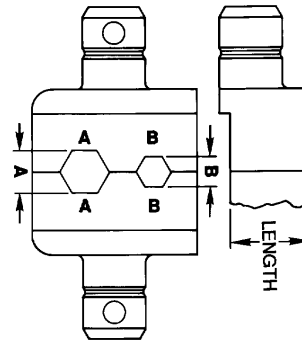

Figure 33. Die Dimensions
87. **Tool Die.** M22520/5 dies are illustrated in Figure 33. The available /5 and /10 dies are listed in Table 16.